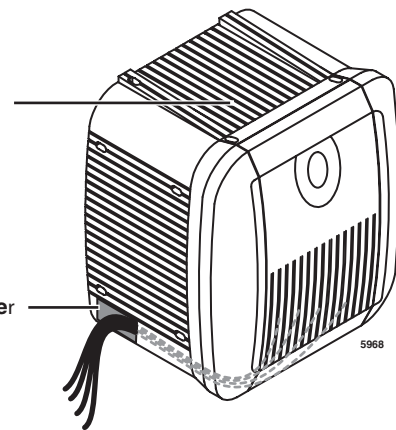

Figure 2-22 Base and Expansion Cabinet Cables and Connectors
2. Remove the left or right cover(s) of the cabinet and knock out the rectangle(s) to create a hole for the cables, as needed (see Figure 2-22).